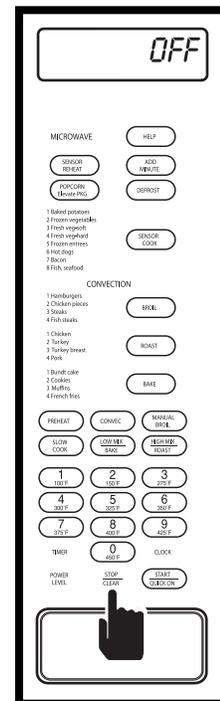

Figure 3-64.
5. When the STOP/CLEAR key is pressed at this time, the display will flash “LOCK - OFF” (See Figure 3-64) and then show time of day.